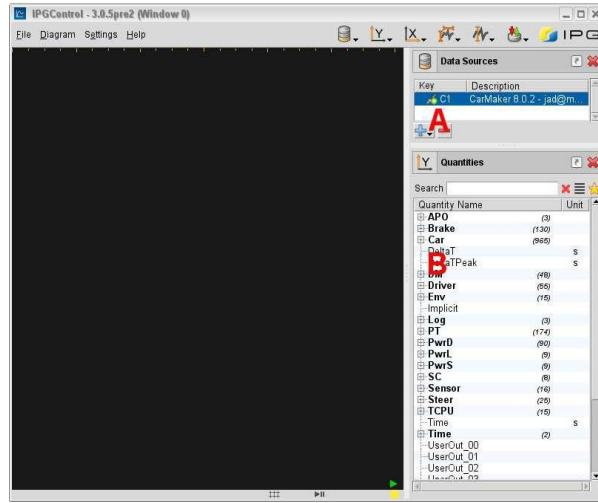

Figure 3.34: IPGControl GUI to select quantities to be plotted in Data Window
IPGControl is CarMaker's analysis tool. Various simulation result files can be loaded (Figure 3.34 - section A) consecutively to plot and compare signals. Multiple diagrams can be generated and displayed within a single window - one below the other (Figure 3.35).
- Click in the lower diagram. You can either search in section B/C (see Figure 3.34) and select the UAQ with LMB or by entering its name into the search bar.